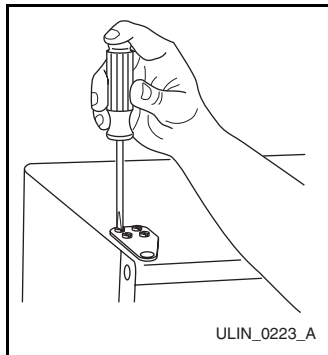

Figure 36
- Place door on lower hinge pin. Align flat edge of top hinge with outer edge of unit and fasten upper hinge to unit (four screws). Partially tighten screws (**Figure 36**).